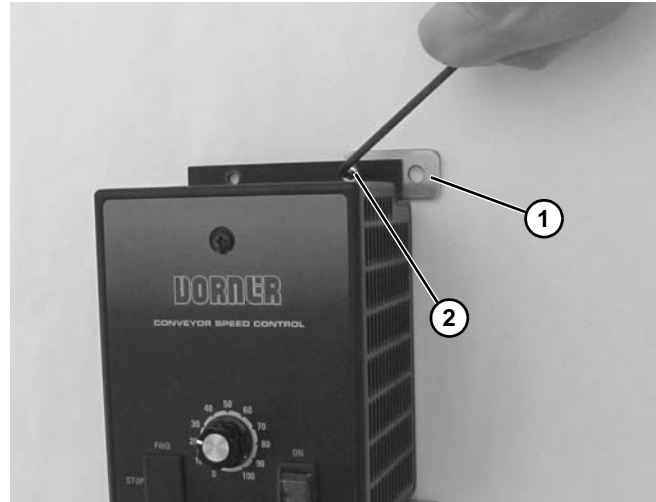

Figure 22
1. Assemble mounting clips (**Figure 22, item 1**) with screws (**Figure 22, item 2**) to the side of the controller.